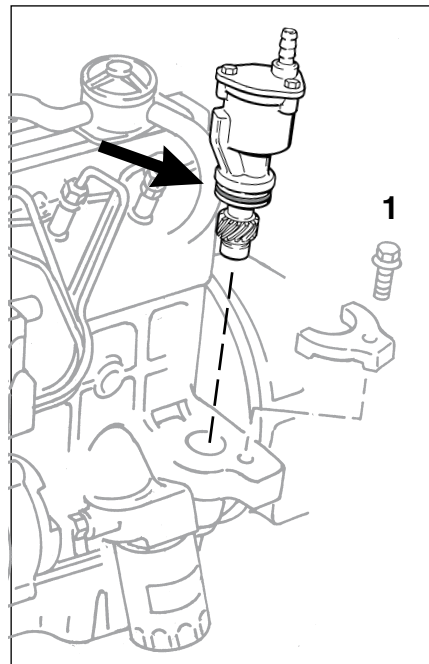

Fig. 4
- **For 1.9 l engine, Fig. 4**
- Fixing screw tightening torque for 1,6 and 1,9 l engines (1, Fig. 4): 20 Nm